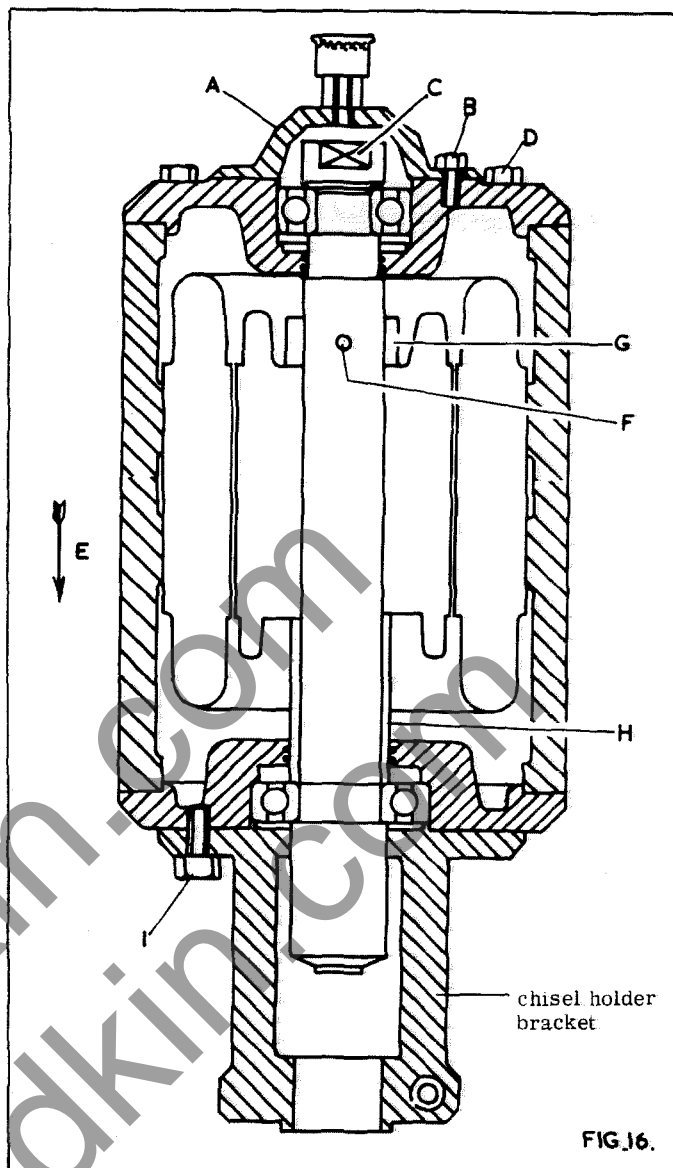

FIG. 16.
2. Remove the top dust cap "A" in fig. 16 by removing the two hexagon head bolts "B".